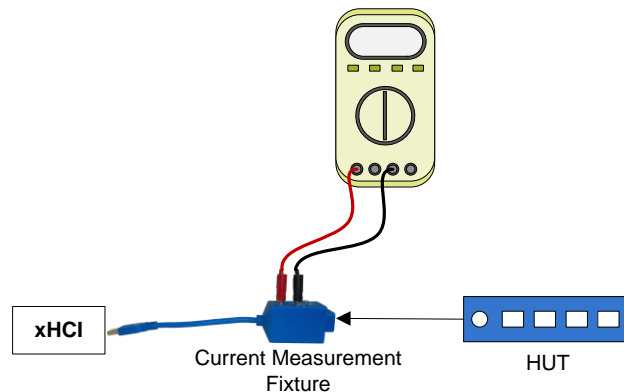

Figure 3-9: Hub Current Measurement Topology
- Connect a SSP Current Measurement Fixture between HUT and SuperSpeedPlus xHCI host as shown in Figure 3-9.